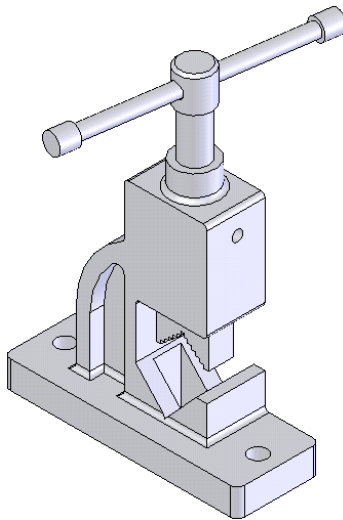
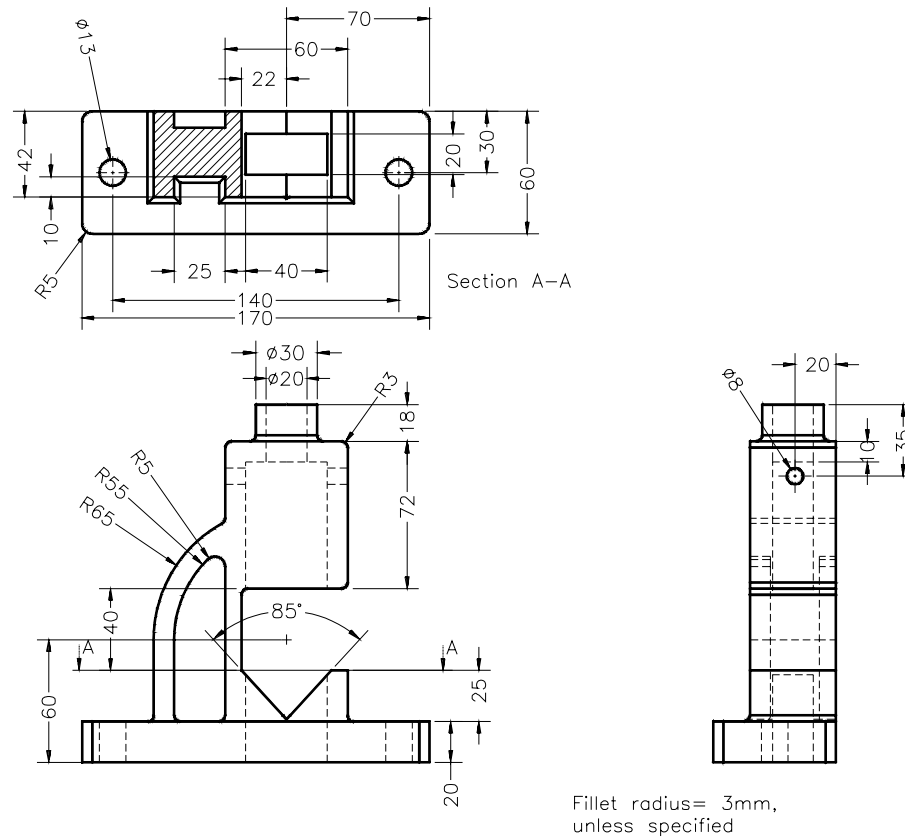

Figure 10-75 Pipe vice assembly
Figure 10-76 Views and dimensions of the base
In this tutorial you will create all the components of the Pipe Vice and then assemble them. The pipe vice assembly is shown in Figure 10-75. The dimensions of the various components are given in Figures 10-76 and 10-77. **(Expected time: 2 hrs 45 min)**
1. Create all the components of the Pipe Vice assembly as separate part documents. Specify the names of the files as shown in Figures 10-76 and 10-77. The files should be saved in the directory */My Documents/SolidWorks/c10/Pipe Vice*.